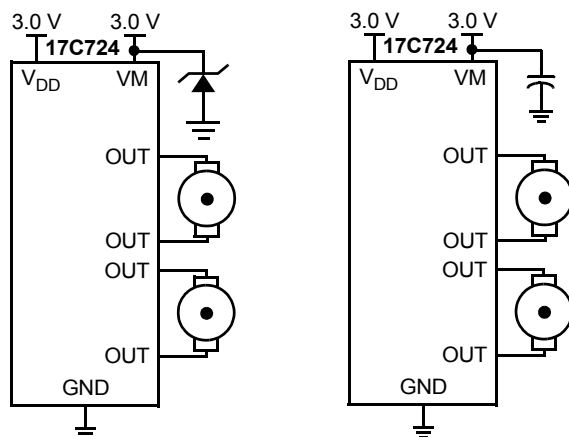

Figure 7. CEMF Snubbing Techniques
Care must be taken to protect the IC from potentially damaging CEMF spikes induced when commutating currents in inductive loads. Typical practice is to provide snubbing of voltage transients by placing a zener or capacitor at the supply terminal (VM) (see Figure 7).